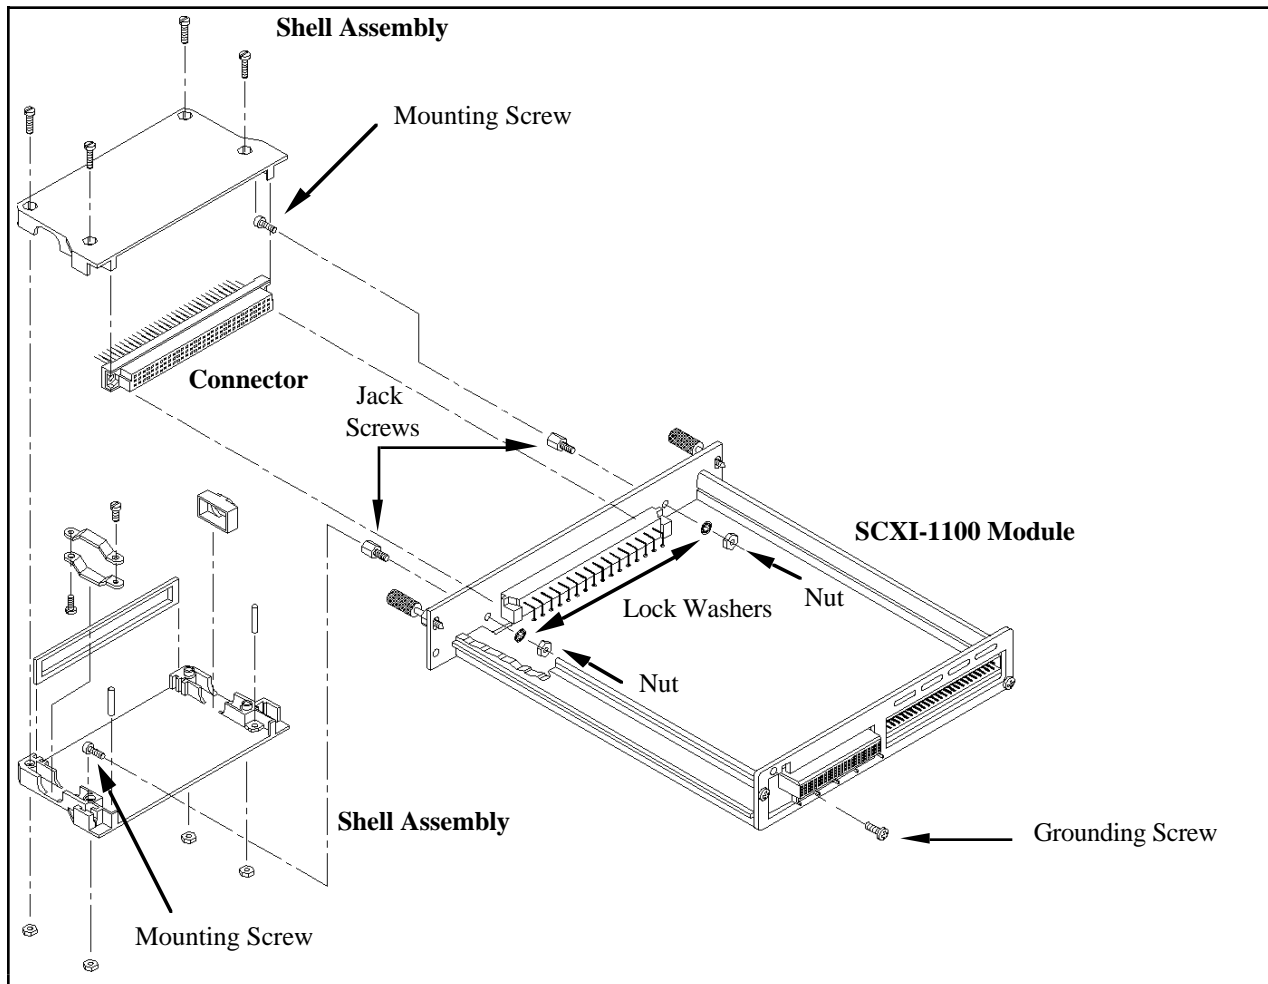

Figure 2-6. Assembling and Mounting the Connector-and-Shell Assembly
1. Refer to Figure 2-6 and the diagram included with your SCXI-1310 kit to build the connector-and-shell assembly.
5. Remove the module cover. Refer to Figure 2-6 as you complete the remaining steps.
6. Place one jack screw as indicated in Figure 2-6.